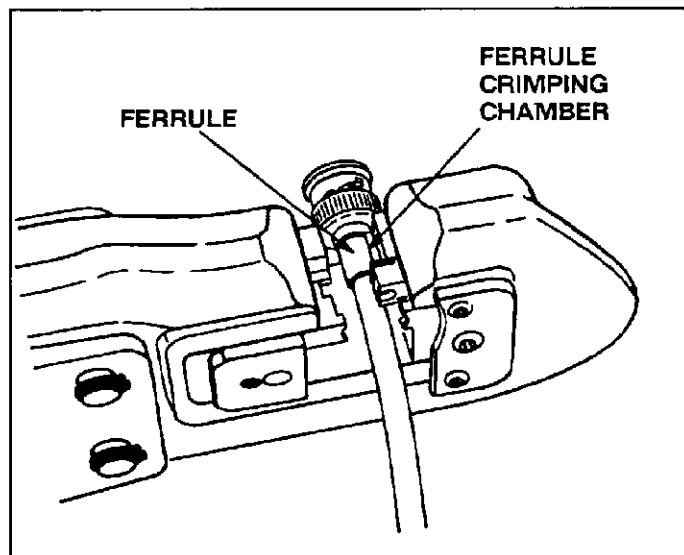

Fig. 5
3. Place the ferrule in the large crimping section of the stationary dies shown in Figure 5.